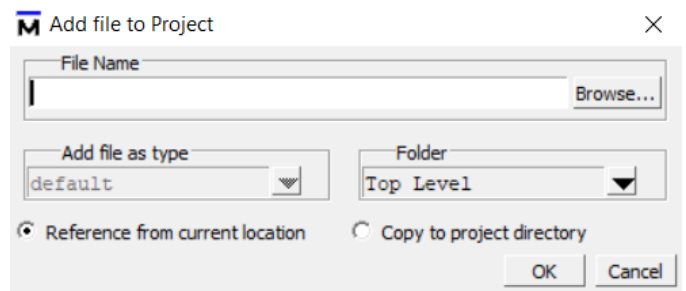
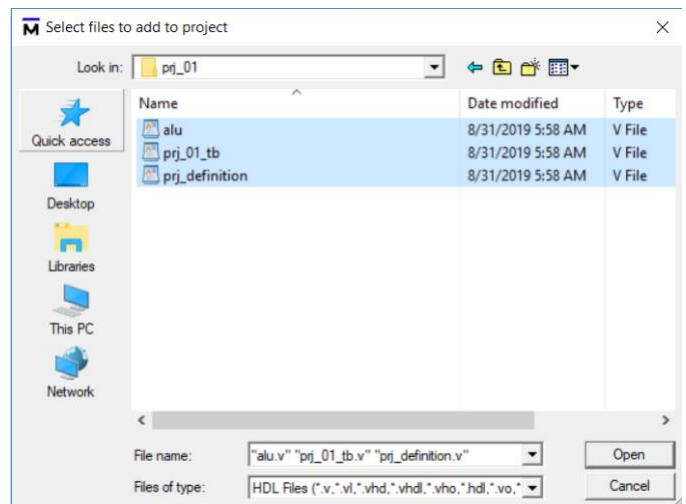

Figure 2.3 Add file
Figure 2.4 Select files
4) After clicking on the Add Existing File button, it will pop up another window called Add file to Project (Figure 2.3). Then click on the *Browser*, it will pop up another window called *Select files to add to project* (Figure 2.4). Then select three files we got from the Canvas. Click on the *Open* button.